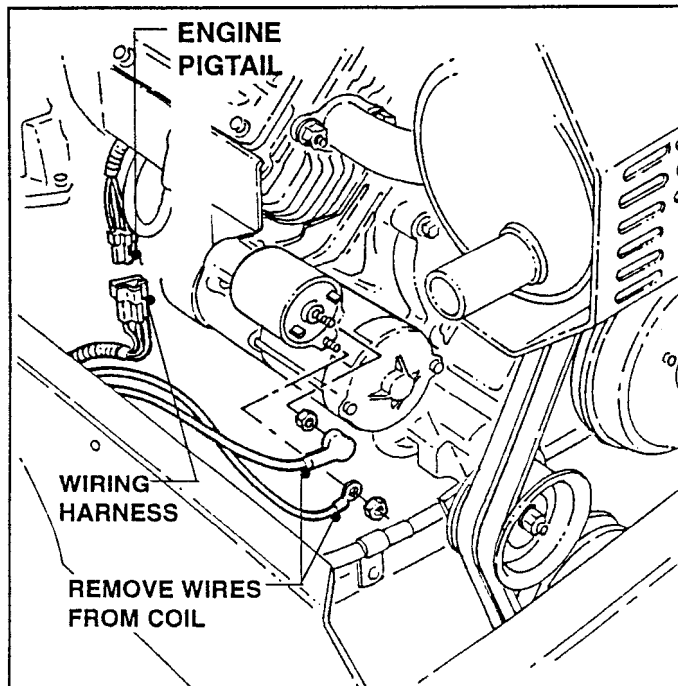

FIGURE 4.3
B. Disconnect engine pigtail from wiring harness. See Figure 4.3.
C. Remove wires from coil. Refer to Figure 4.3.